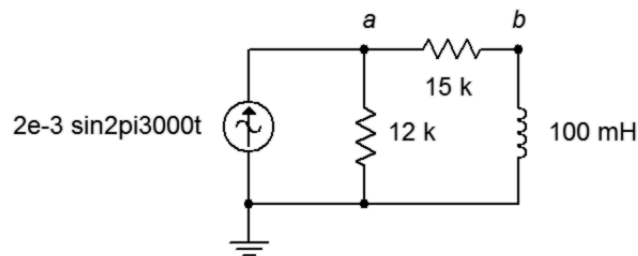

Figure 4.13
19. For the circuit of Figure 4.13, determine the currents each of the three components.
20. For the circuit of Figure 4.13, determine voltages v_a and v_b .